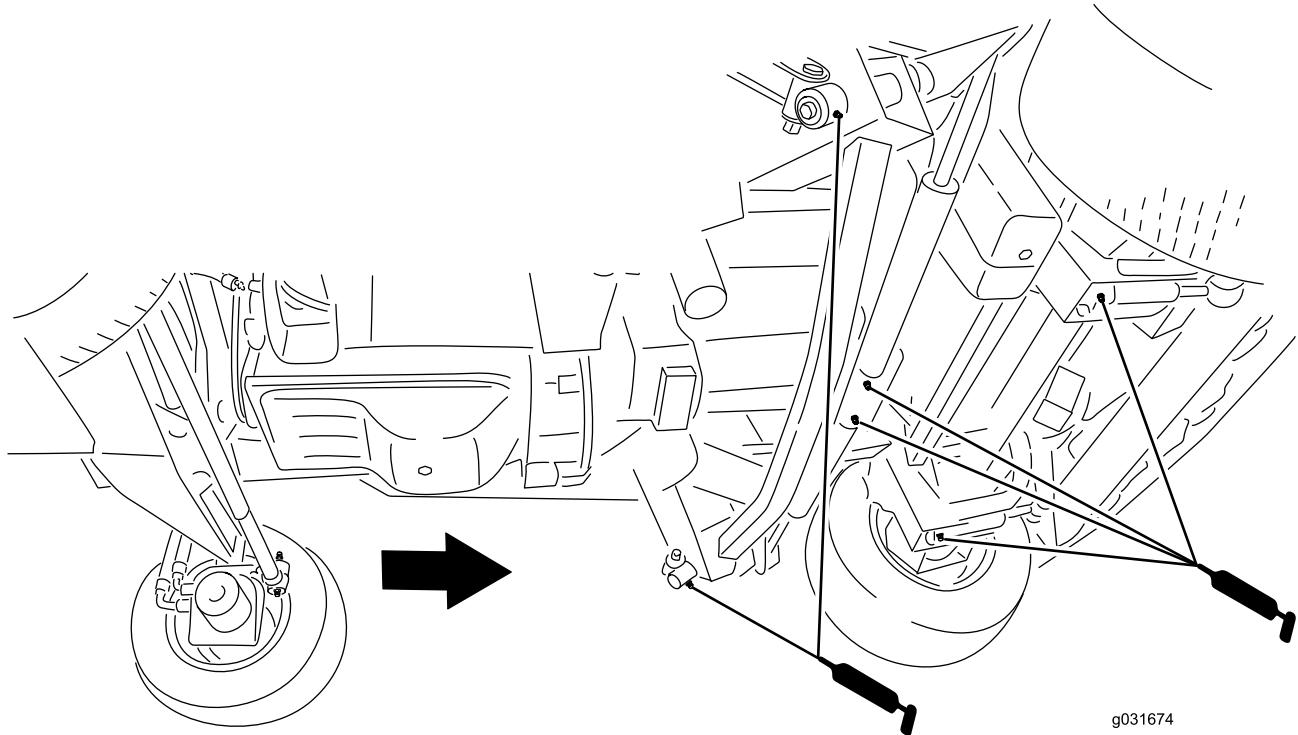

Figure 69
- 2 impact arms (Figure 69)
- 2 front deck-lift-cylinder pivots (Figure 69)
- 2 side deck-lift-cylinder pivots (Figure 69)